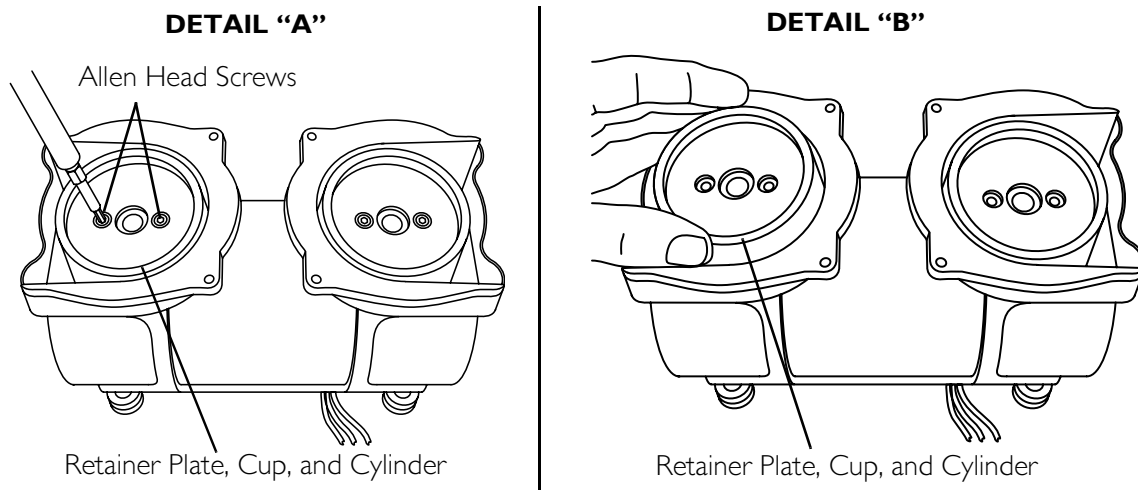
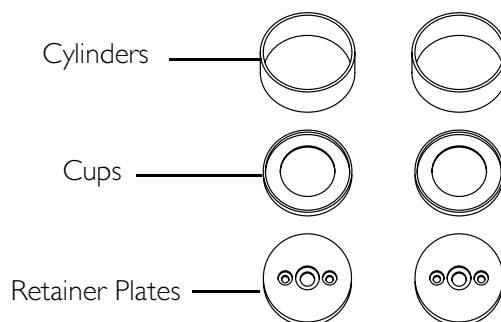
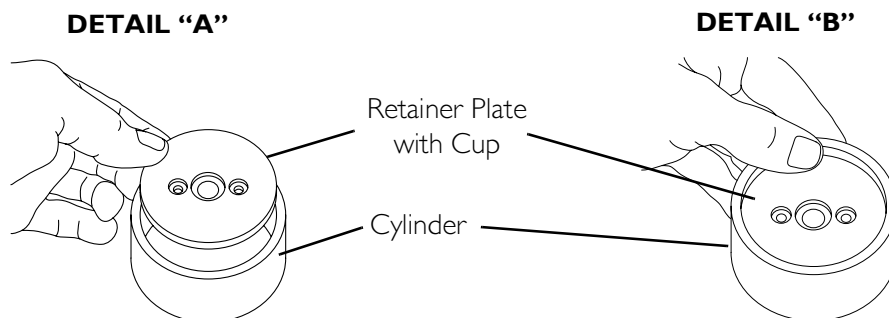
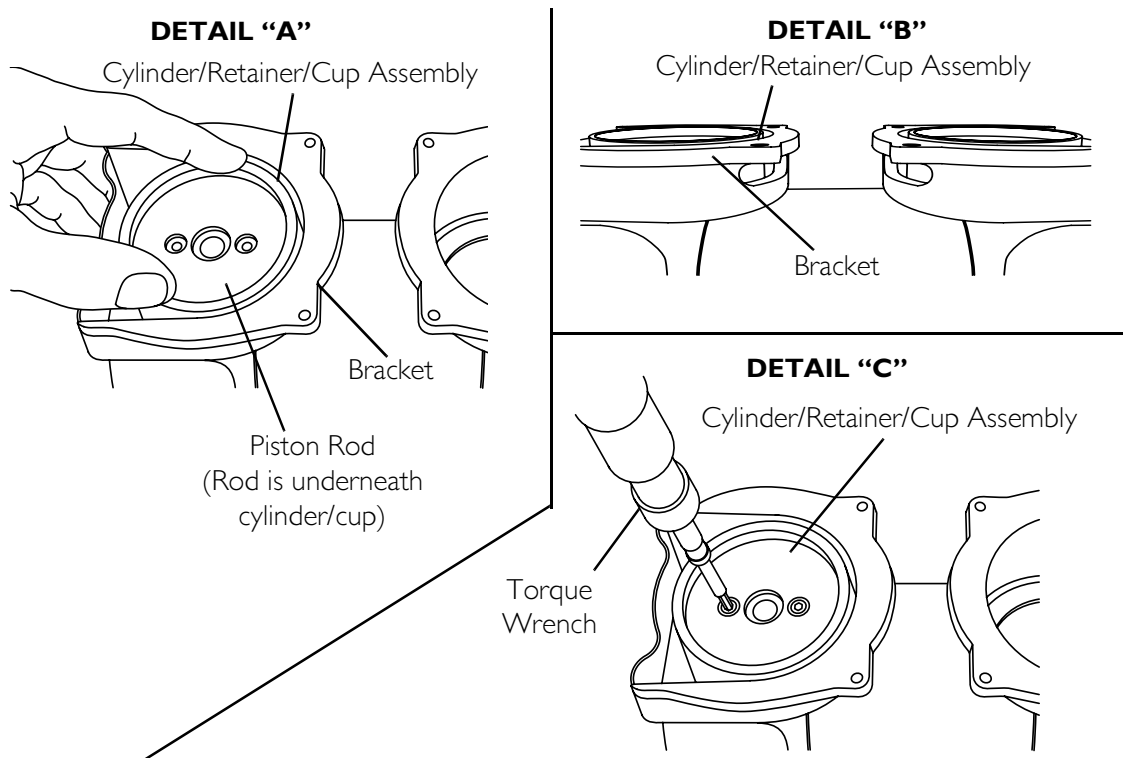

FIGURE 7.18 Removing the Existing Retainer Plate, Cups and Cylinders
FIGURE 7.19 Identifying the New Retainer Plate, Cups and Cylinders
FIGURE 7.20 Installing the New Retainer Plates, Cups and Cylinders
FIGURE 7.21 Installing the New the Cylinder onto the Compressor
NOTE: For this procedure, refer to FIGURE 7.18 and FIGURE 7.19 on page 50.
NOTE: The cylinder, cup and retainer plate should all come off together. Refer to FIGURE 7.19 for individual illustrations of cylinder, cup and retainer plate.
NOTE: For this procedure, refer to FIGURE 7.19, FIGURE 7.20, and FIGURE 7.21 on page 51.
1. Find the new cylinders and cups in the repair kit (FIGURE 7.19).
2. Place the new retainer plate into the new cup (Detail "A" of FIGURE 7.20).
4. Place the new cylinder/retainer/cup assembly over the piston rod (Detail "A" of FIGURE 7.21).
5. When properly installed, the cylinders extend slightly above the bracket surfaces (Detail "B" of FIGURE 7.21).
6. Secure the new cylinder/retainer/cup assembly to the compressor piston with the new retainer plate screws (Detail "C" of FIGURE 7.21).